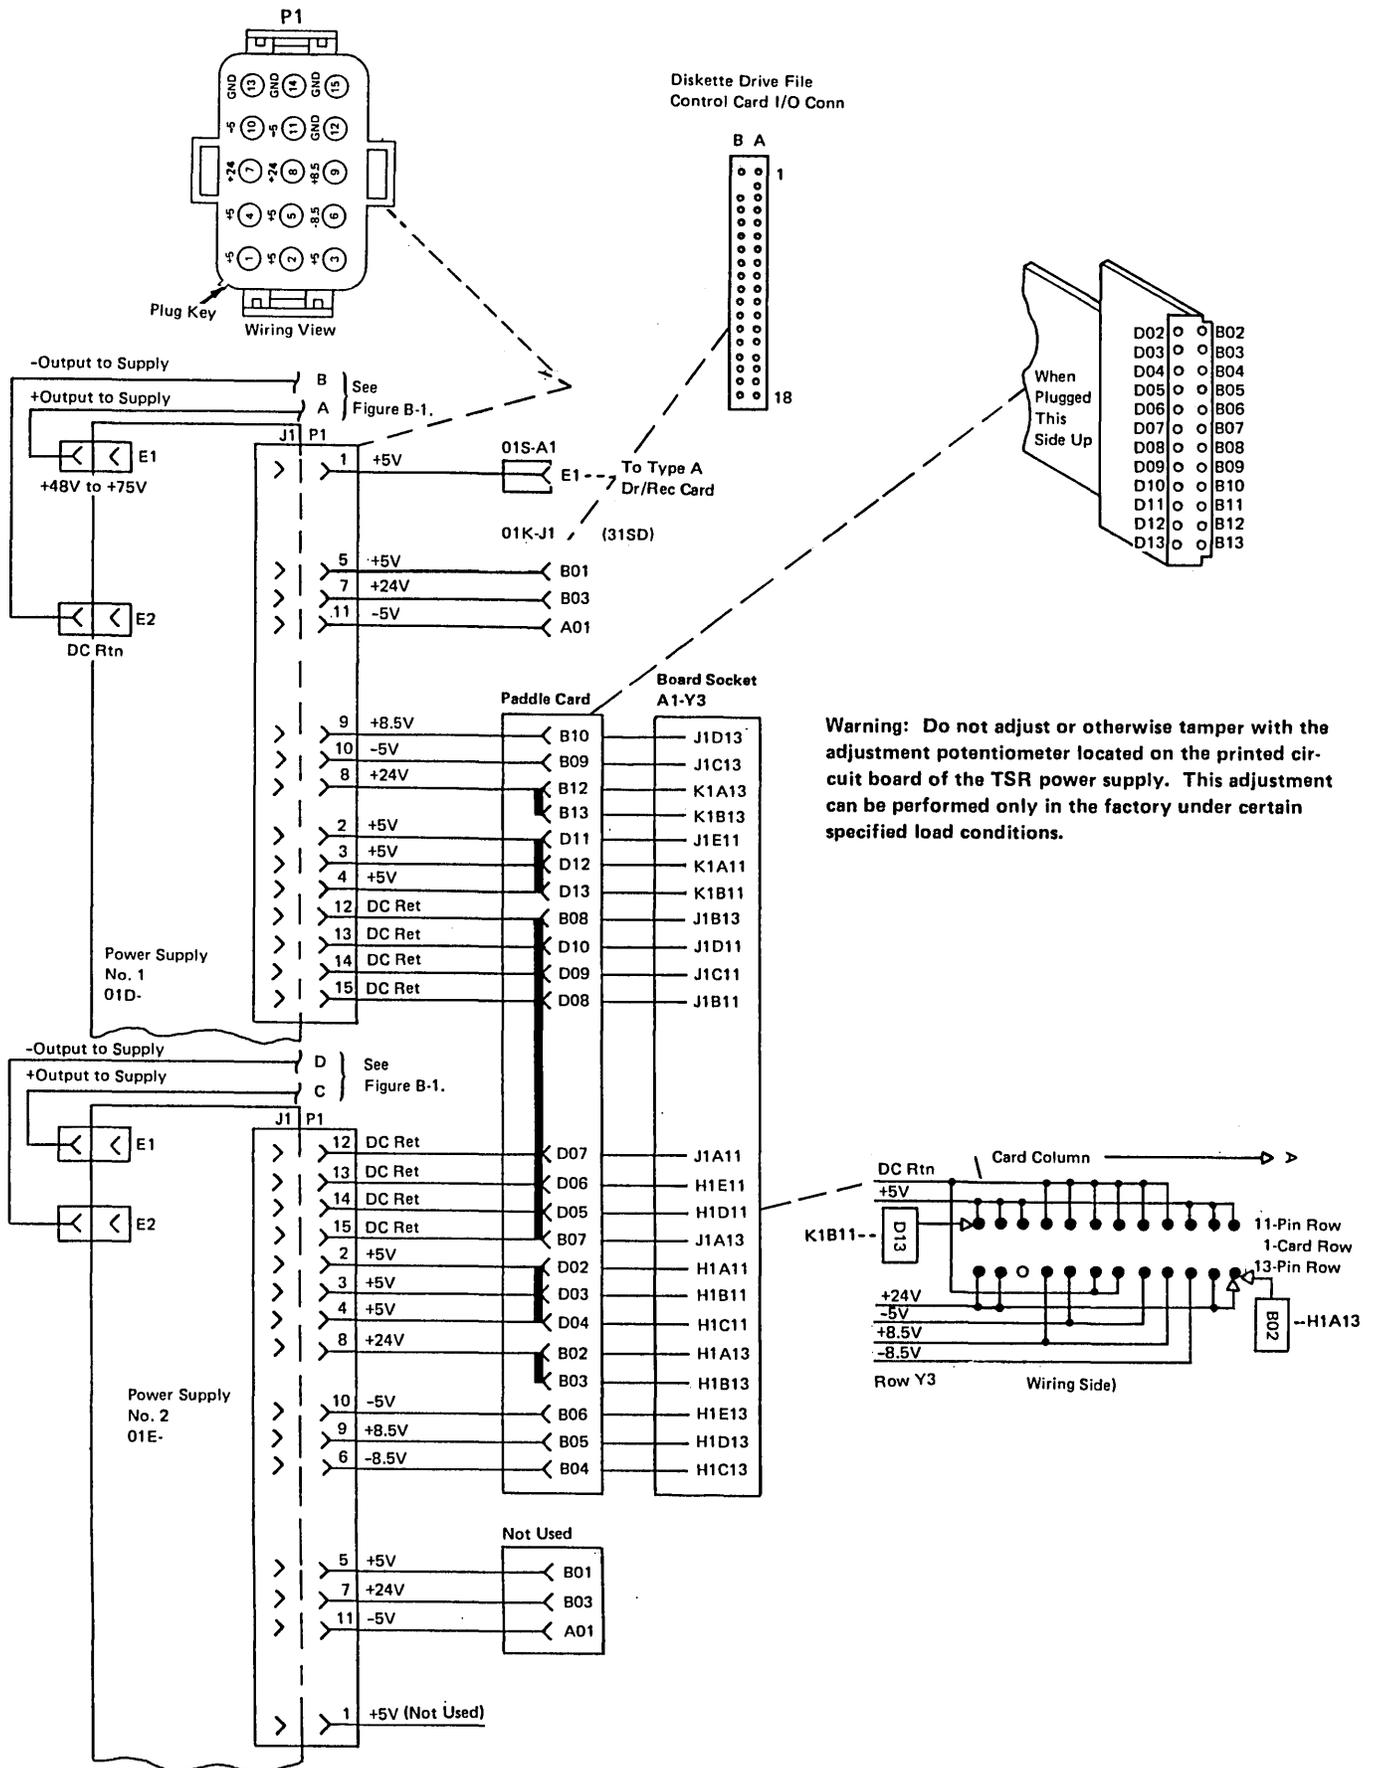

Figure B-3 (Part 1 of 2). Dual Power Supply System
- Figure B-3. Dual Power Supply System (2 Parts) B-4